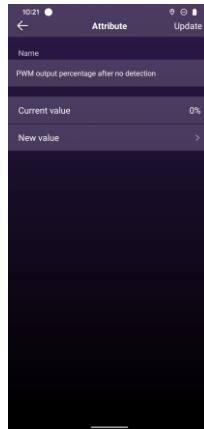

Figure 22
14. The attribute “**PWM output percentage after no detection**” is to set the PWM output percentage value of the 0-10V dimming after delay time expires. Tap it to enter setting interface, “**Current value**” means current percentage, “**New value**” is to set a new percentage, available setting range is 0~100%, factory default percentage is 0%. Once set a new value, tap “**Update**” button at upper right corner to save the setting (as shown in **Figure 22**).